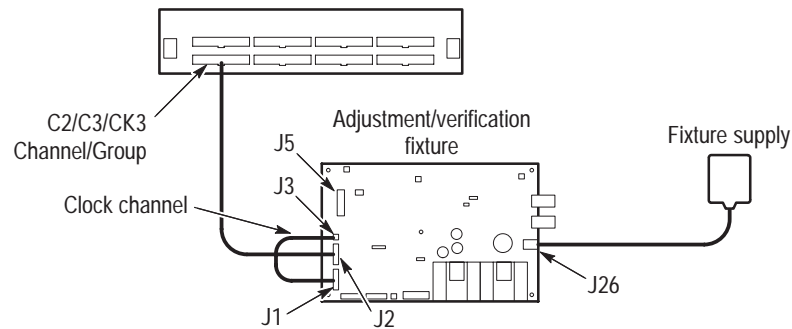

Figure 6–1: Probe functional verification test setup
Prerequisites	Warm-up time: 30 minutes P6417, P6418 or P6434 probe connected ¹ Test equipment connected as shown in Figure 6–1 Diagnostics and SELF_CAL pass
1. Ensure that the jumper at J15 on the adjustment/verification fixture is in the INT position to select the internal 50.065 MHz clock. See Figure 6–4 on page 6–14 for location of J15.